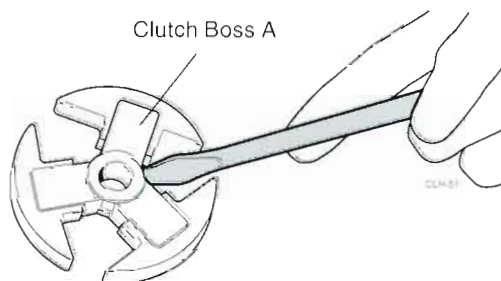

Figure 6.16 Prying the Boss from the Clutch Body
STEP 2. Use a screwdriver to pry clutch boss A from the clutch body as shown (Figure 6.16).